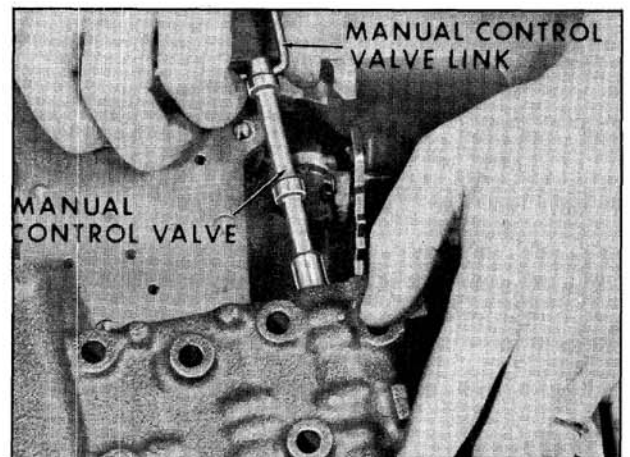

Fig. 6-530 Installing Valve Body
3. Install manual control valve and link into valve body assembly. (Fig. 6-530)